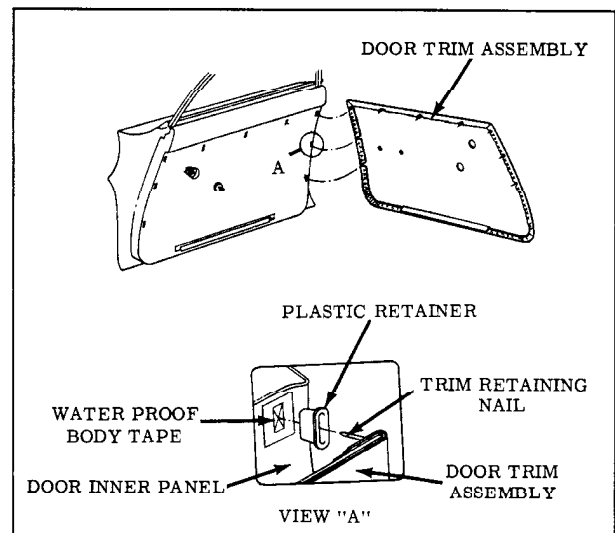

Fig. 15-18 Door Trim Installation
4. Starting at top of trim assembly, carefully insert Tool J-6335 or a suitable flat-bladed tool between door trim assembly and door inner panel at retaining nail locations and disengage nails from retainers. (Fig. 15-18)